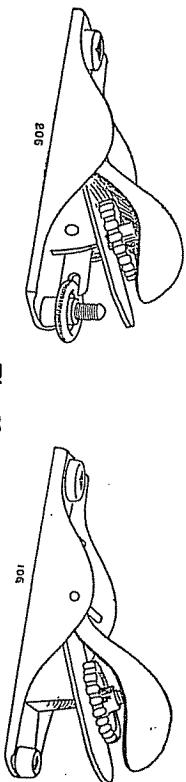

Fig. 20
**PLANE.** The plane is no more than a chisel held in a piece of apparatus which regulates the size of the cut. (See Figs. 20, 21A, and 21B,